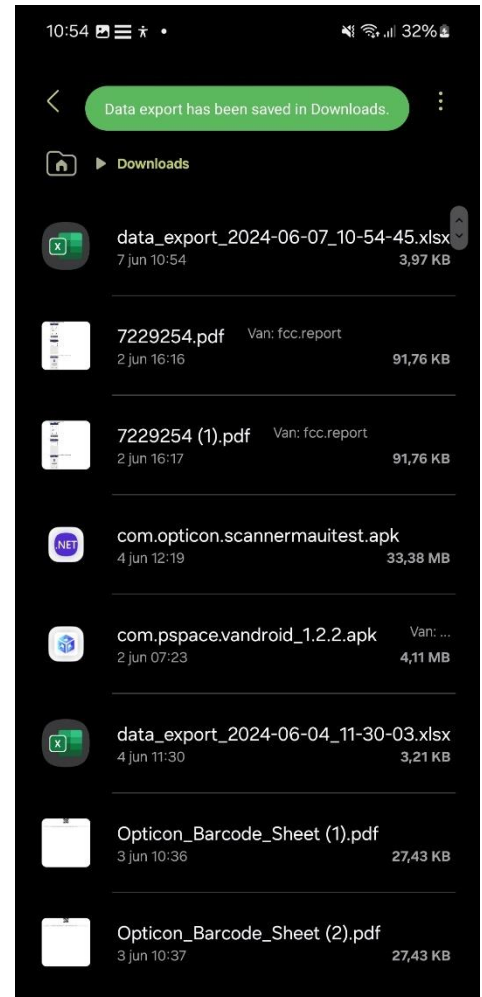

Figure 8-19: The export file is successfully created and located at the top of the Downloads folder (Android).
To create the export, simply click on the *Quick Export* button (1) in Figure 8-10, or click on the *Quick Export* button in the main menu. This will initiate the export process with your configured settings. After the export is completed, you are automatically redirected to the export settings file location, making it easy to access and review the exported data (see Figure 8-19). For Android, the export will be stored in the *Downloads* folder, and for Mac, iOS, and Windows, it will be stored in the *Documents* folder.